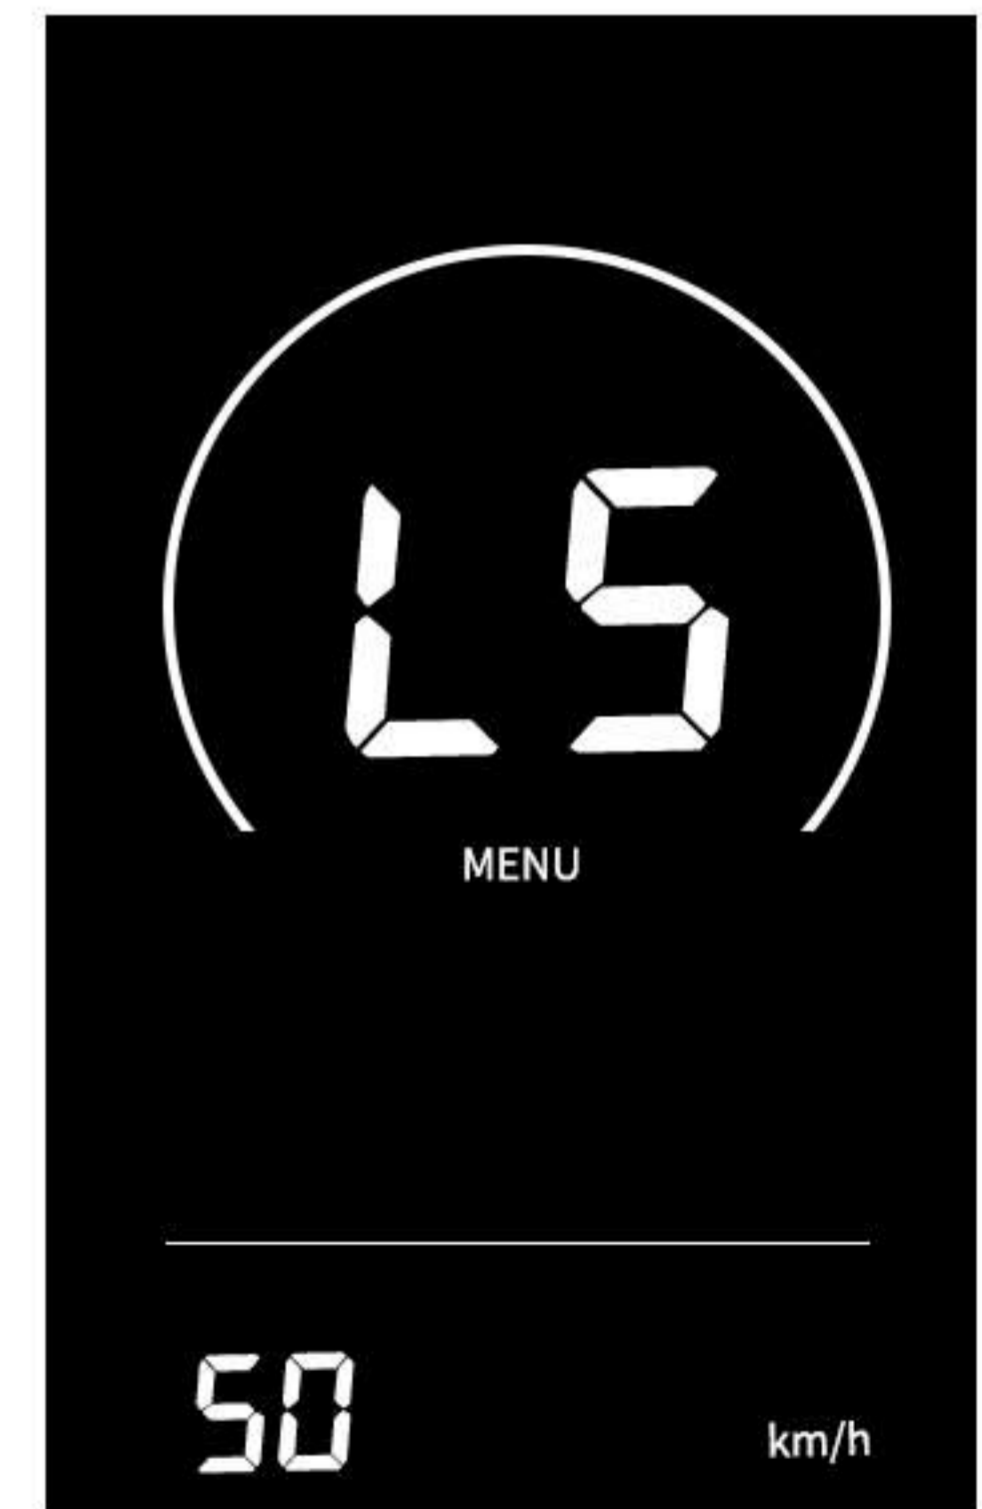

Fig2.2.3
Step 3: Press **-** to select (Fig2.2.3)